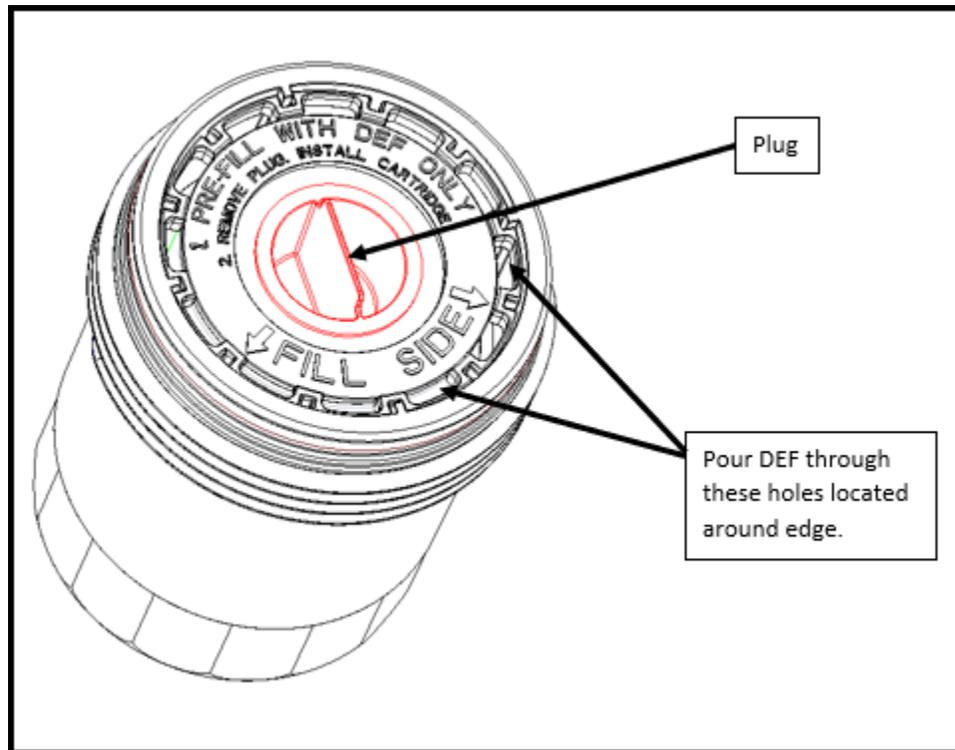

Figure 9: Fill holes and plug location
2. Fill the filter cartridge subassembly with approximately 40-50 mL of clean DEF. The fluid must be poured into the openings marked "Fill Side". Refer to Figure 9. Wait 30 seconds or until DEF level stops falling due to filter soaking. Avoid filling too rapidly to prevent fluid from overflowing. Repeat until the filter cartridge subassembly is at least 3/4 full of DEF (minimum of 150 mL). Once prefill is complete, remove plug and go to step 3.